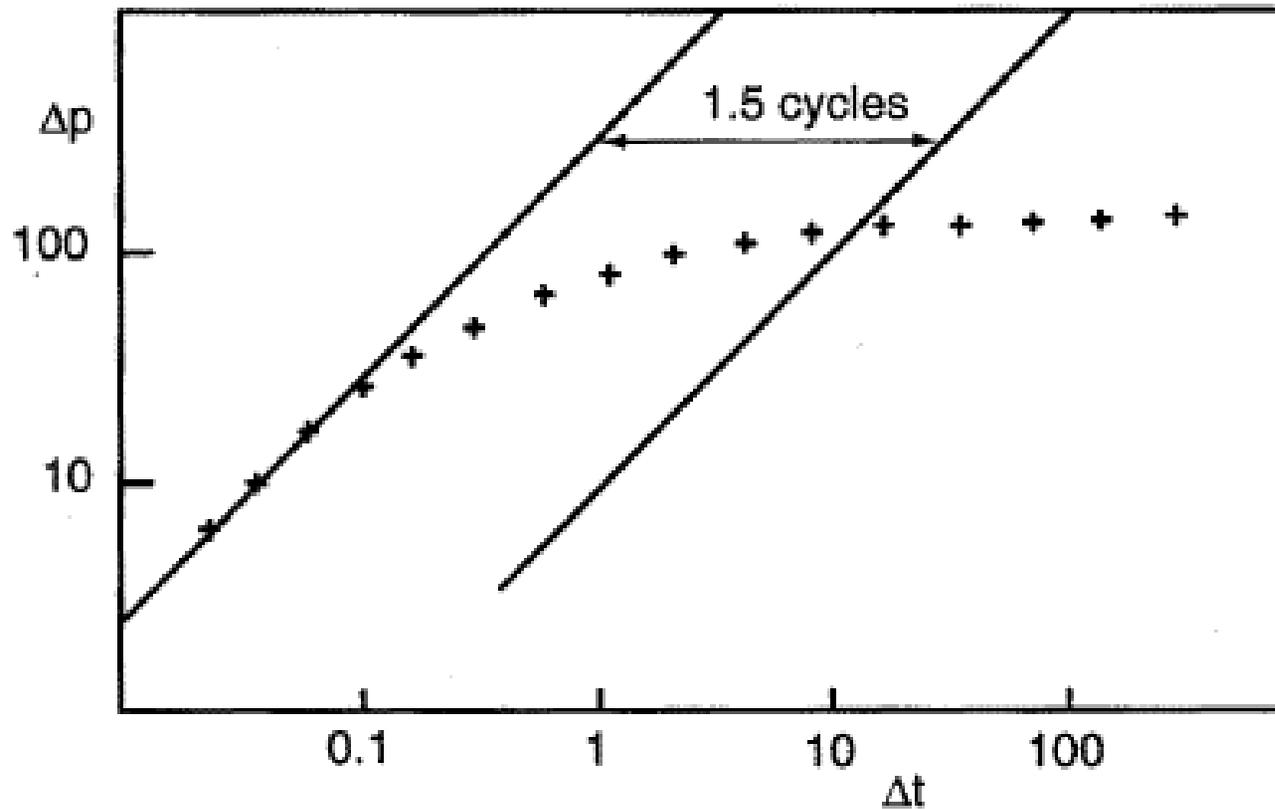

Fig. 2.3
- The rule of thumbs locates the end of the wellbore storage effect at the intersection of the measurement point curve and the line parallel to the slope 1 line translated by 1.5 cycles (Fig. 2.3).